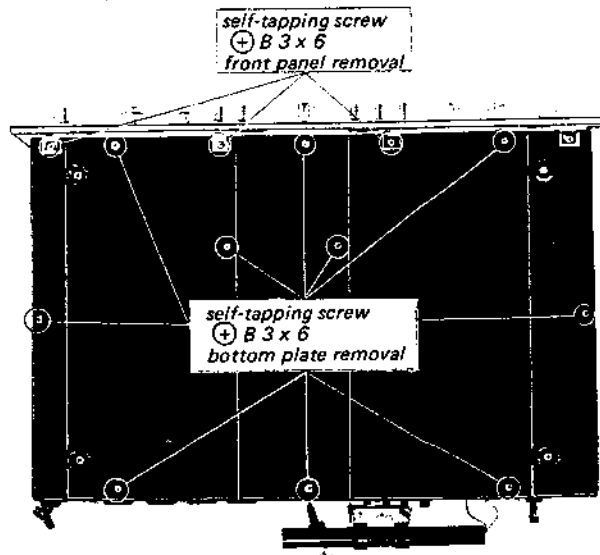

Fig. 2-2. Bottom plate and front panel removal
2. The bottom plate can be freed by removing the ten self-tapping screws as shown in Fig. 2-2.
3. Remove the four self-tapping screws at the front bottom of the chassis as shown in Fig. 2-2.